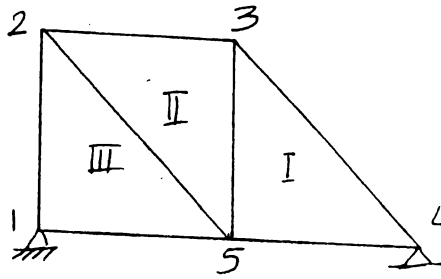

Fig. 4
8. (a) What is the basic difference between Banded Matrix Solution and Frontal Solution? (4)
- (b) Solve the problem shown in Fig. 4 using Frontal Solution technique. Suppose, $W_1 = 0$, $W_4 = 1$. (19 $\frac{1}{3}$)